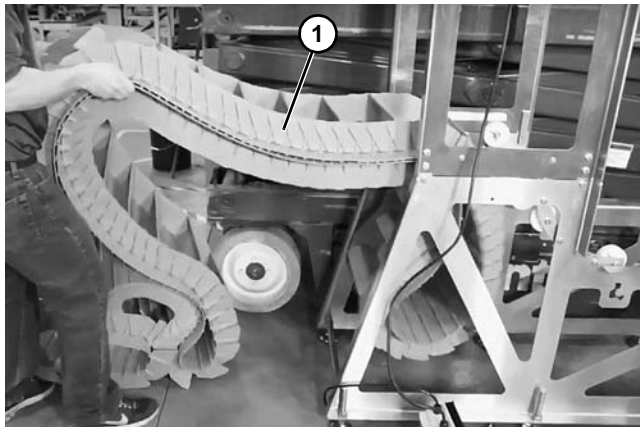

Figure 52
21. Remove the belt (Figure 52, item 1) from the conveyor frame.